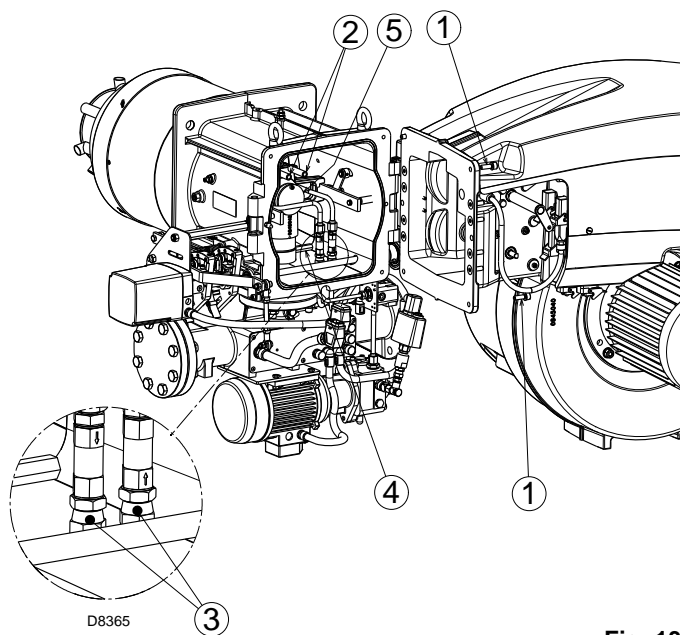

Fig. 13
- Open burner at hinge after removing the four screws 1)(Fig. 13) .